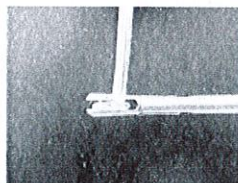
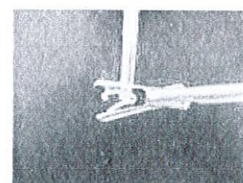

Fig 8
Fig 9
8. Once the hinge is located in this channel, apply steady pressure to the remover handles until a slight click is felt (Fig. 8). This indicates the clip legs have disengaged (Fig. 9). Visually confirm the clip has opened sufficiently to allow removal.